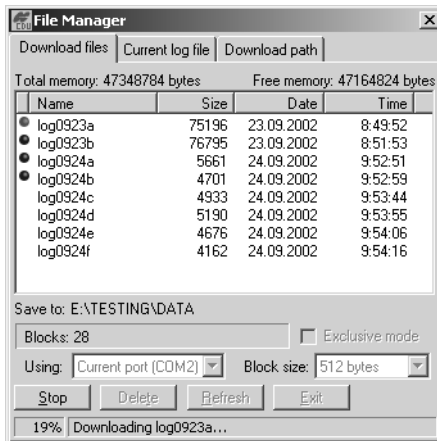

Figure 4-6. Download Files – Status Indicators
8. Click the **Download** button. During the download, status indicators display next to each file (Figure 4-6).